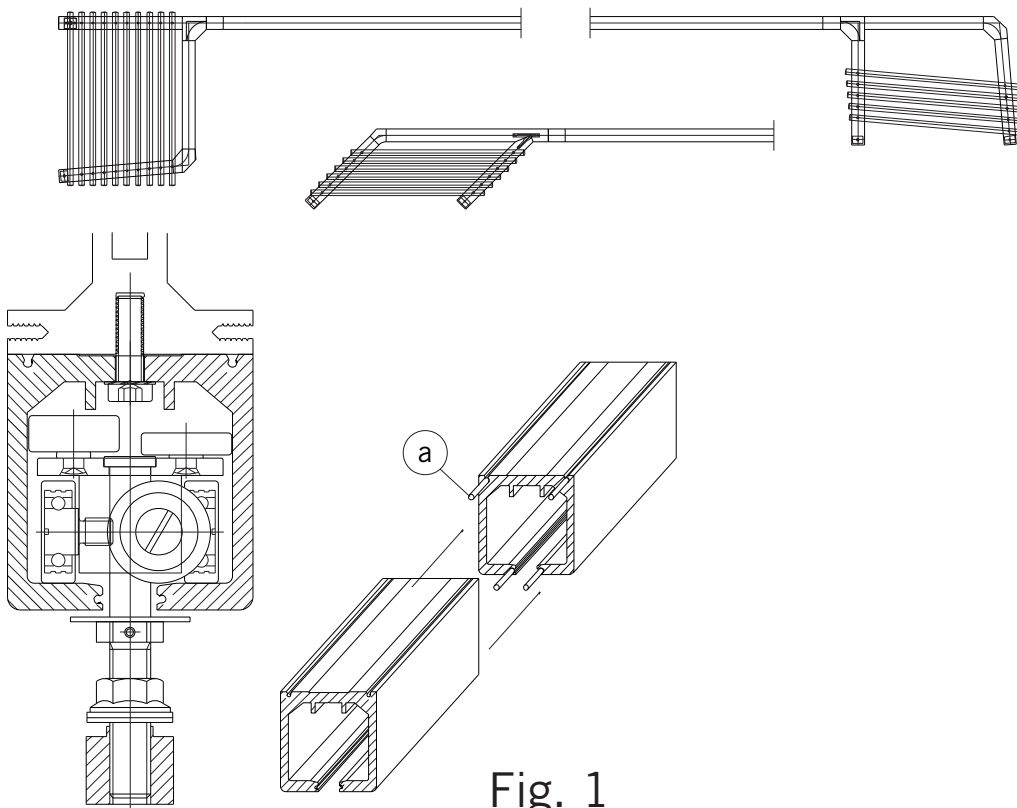
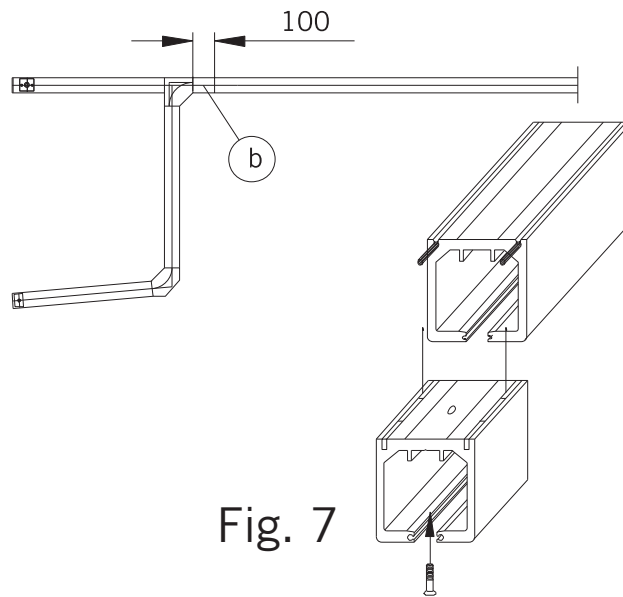

Fig. 1
Fig. 7
Caution: All the track joints (except the maintenance end piece, Figure 7) must be provided with connection pins (a) in order to ensure a flush transition between the track sections and thus smooth sliding panel operation. (Fig. 1)
7. Maintenance end piece (Fig. 7):